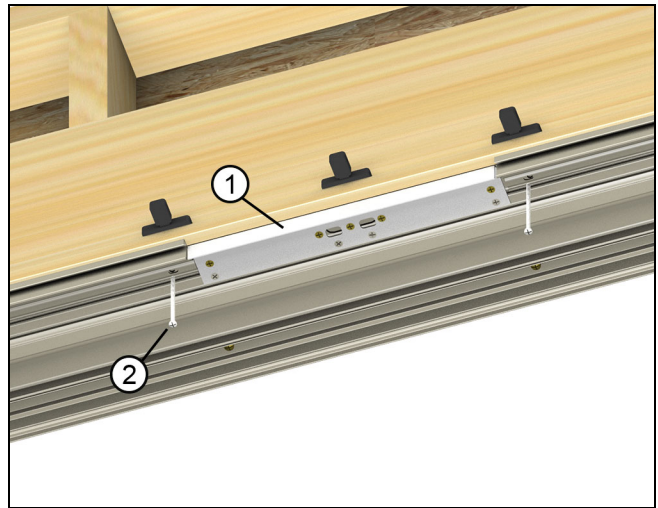

Figure 16
3. Slide the operator panel open and continue fastening the aluminum panel guide with 5/8" (16) truss head screws until the last hole next to the head jamb strike plate. Install #8 x 3" installation screw into the last hole next to the header strike plate. See Figure 16.